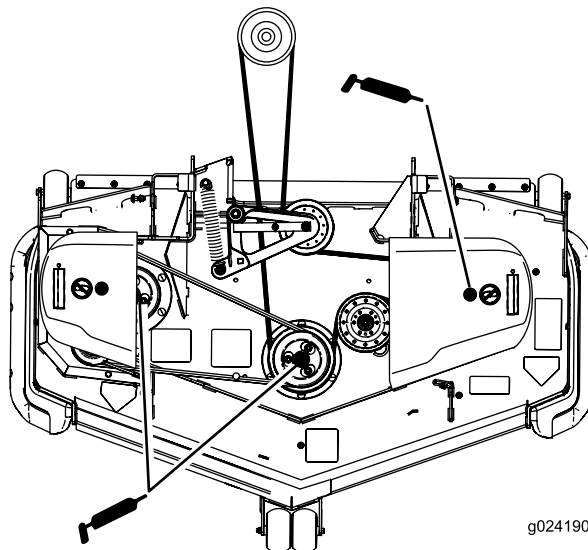

Figure 37
3. Grease the mower deck idler pulley pivot until grease come out the bottom (Figure 37).
4. Grease the 3 spindle bearings until grease comes out the lower seals (Figure 37).
6. Grease the drive-belt idler arm (Figure 37).